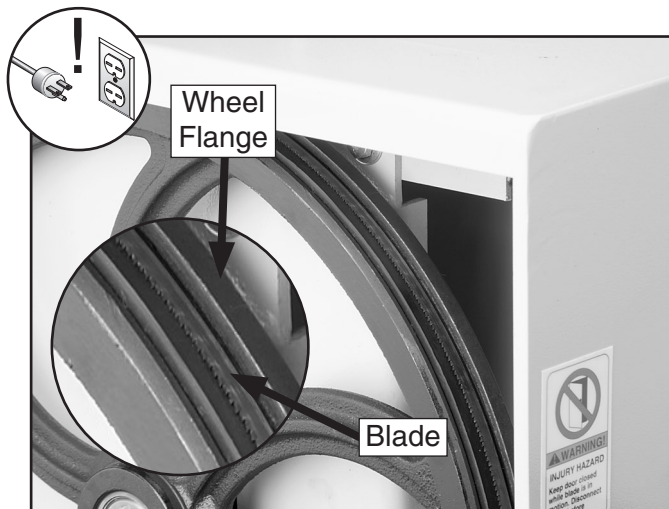

Figure 22. Back edge of blade next to wheel flange.
6. Position the back edge of the blade so that it is next to, but not against, the flange of the top wheel (see **Figure 22**).